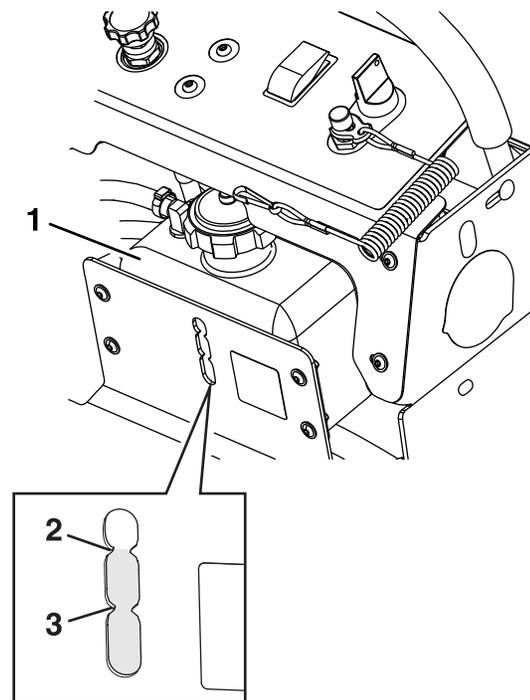

Figure 37
3. Clean area around oil overflow tank and remove cap. Oil level should be between the “add” and “full” marks on the tank bracket (see Figure 37); if not, add hydraulic oil. Replace tank cap and tighten until snug. Do Not overtighten.